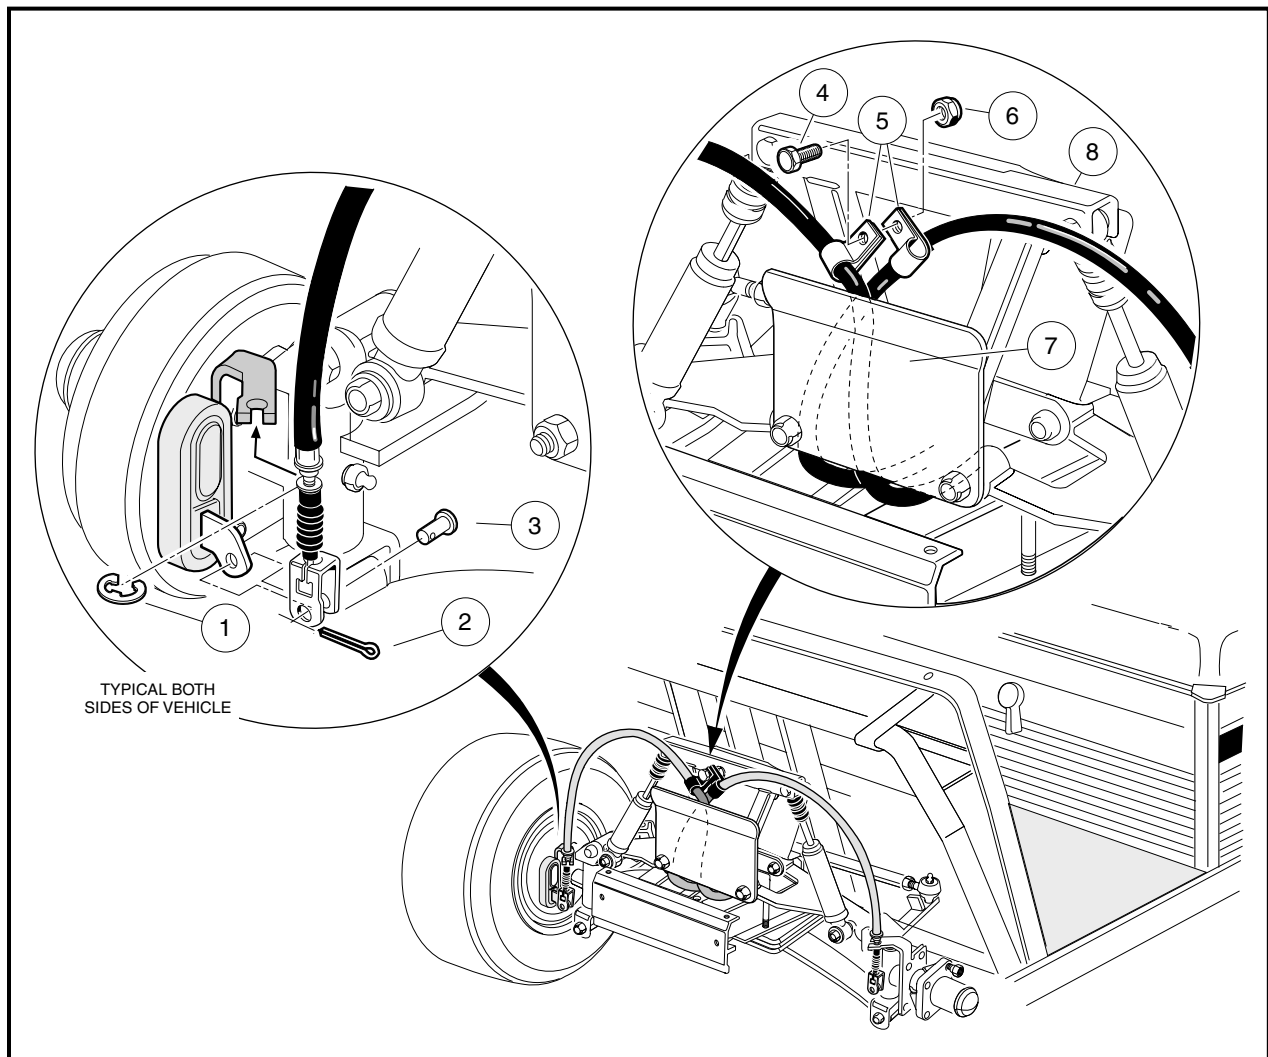

Figure 6-35 Front Brake Cables
1. Remove cotter pin (2) and clevis pin (3) from brake lever arm on front brake cluster (**Figure 6-35, Page 6-21**).
2. Remove E-clip (1) from brake cable housing at the front spindle bracket and remove cable from spindle (**Figure 6-35, Page 6-21**).
4. Remove bolt (4) and nut (6) from brake cable clamp (5) (**Figure 6-35, Page 6-21**).
5. Route brake cable between the shock support (8) and brake cable guide bracket (7) (**Figure 6-35, Page 6-21**). Secure brake cable retainer clips (5) with a bolt (4) and nut (6).
6. Install brake cable through the front spindle brackets and install E-clip (1).
7. Install brake cable clevis onto brake lever arm and install clevis pin (3) and a new cotter pin (2).